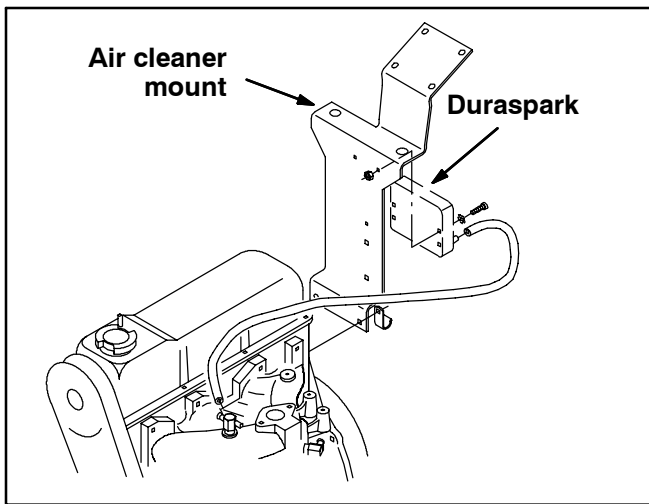
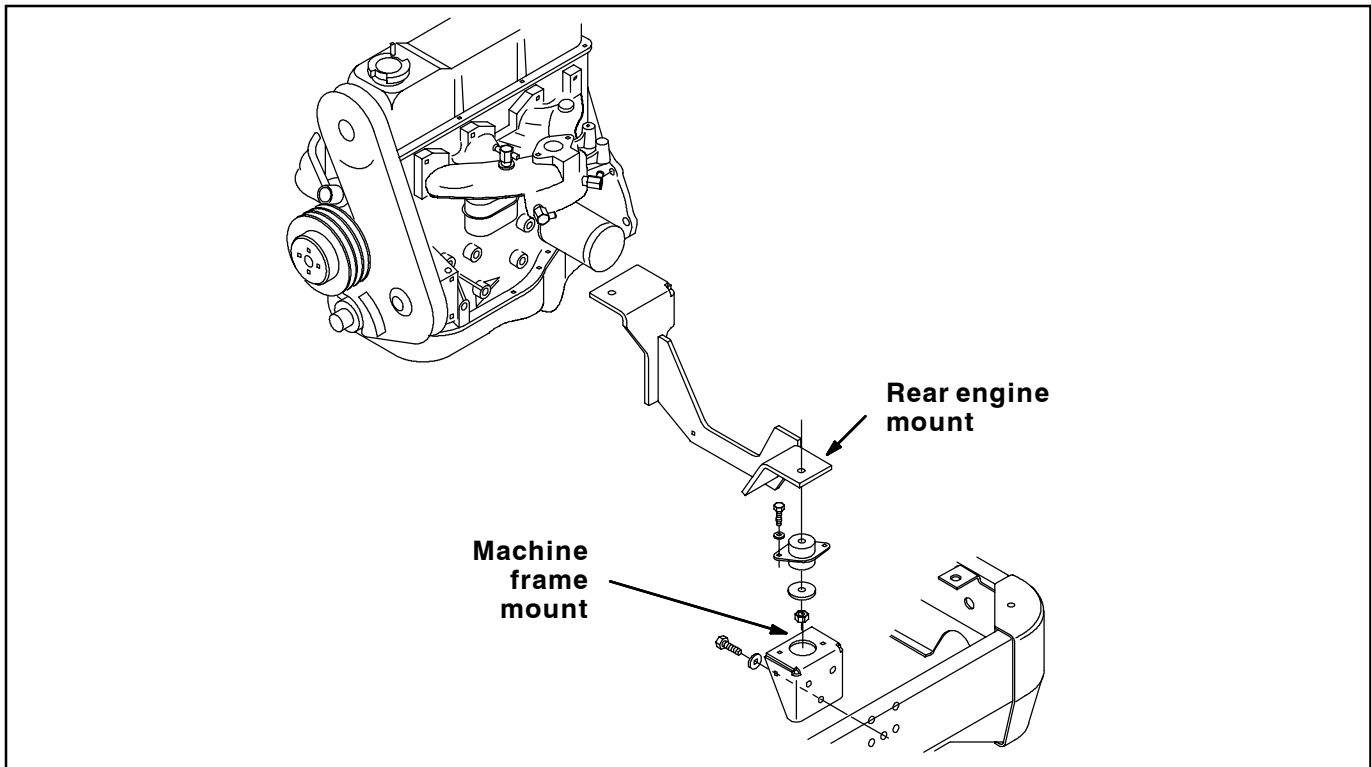
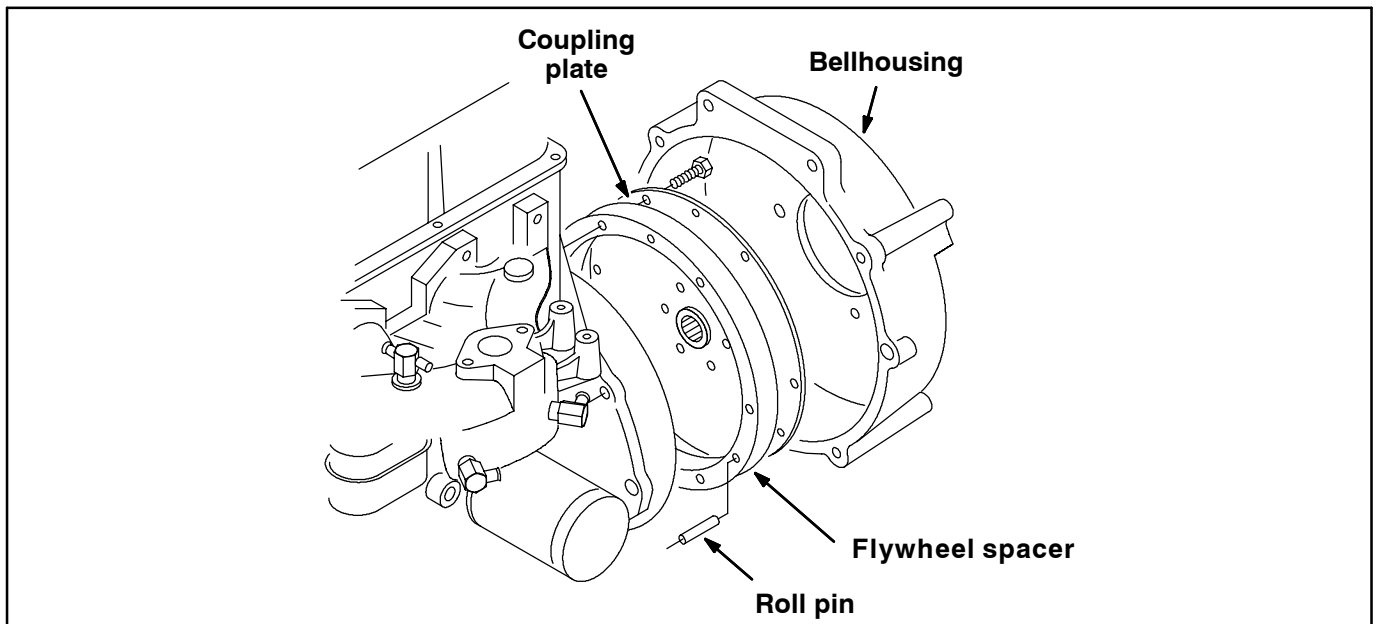

FIG. 1 - Air Cleaner Mount And Duraspark Assembly
FIG. 2 - Rear Engine Mount And Frame Mount
FIG. 3 - Flywheel Spacer And Coupling Plate
(Refer to Fig. 1, Fig. 2, and Fig. 3)
3. Remove the air cleaner assembly. Refer to Fig. 1.
6. Remove the duraspark and coil. Refer to Fig. 1.
11. Remove the rear engine mounting hardware from the frame and bellhousing. Remove the rear mount from the machine. Refer to Fig. 2.
13. Remove the bellhousing from the engine. Refer to Fig. 3.
14. Remove and discard the hex screws holding the flywheel coupling plate to the spacer ring. Remove and retain the coupling plate. Refer to Fig. 3.
15. Pull the spacer ring off the flywheel. Retain the spacer ring. Refer to Fig. 3.
16. Remove the old flywheel/ring gear assembly from the engine. Refer to Fig. 3.
19. Position the spacer ring on the new flywheel (1). Align the three roll pins with the holes in the new flywheel (1). Refer to Fig. 3.
20. Install the coupling plate to the spacer ring and new flywheel (1). Tighten the six hex screws to 16-21 ft lbs. Use a small amount of Loctite 242 on the threads. Refer to Fig. 3.
21. Reinstall the bellhousing on the engine. Use a small amount of Permatex on the top of the bellhousing where it meets the back of the engine block. Refer to Fig. 3.
22. Reinstall the rear engine motor mount on the bellhousing and on the engine frame. Remove the bottle jack and block of wood. Refer to Fig. 2.
25. Install the new O-ring (2) between the accessory pump and propel pump.
28. Reinstall the duraspark and coil. Reconnect the wire harness at the back of the engine. Refer to Fig. 1.
30. Reinstall the air cleaner assembly. Refer to Fig. 1.